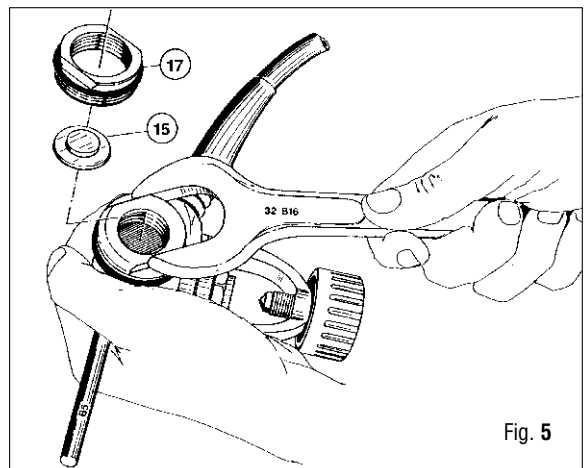

Fig. 5
10. Remove retaining nut (17) using tool (B16) and take off spring base plate (15). (Fig. 5)